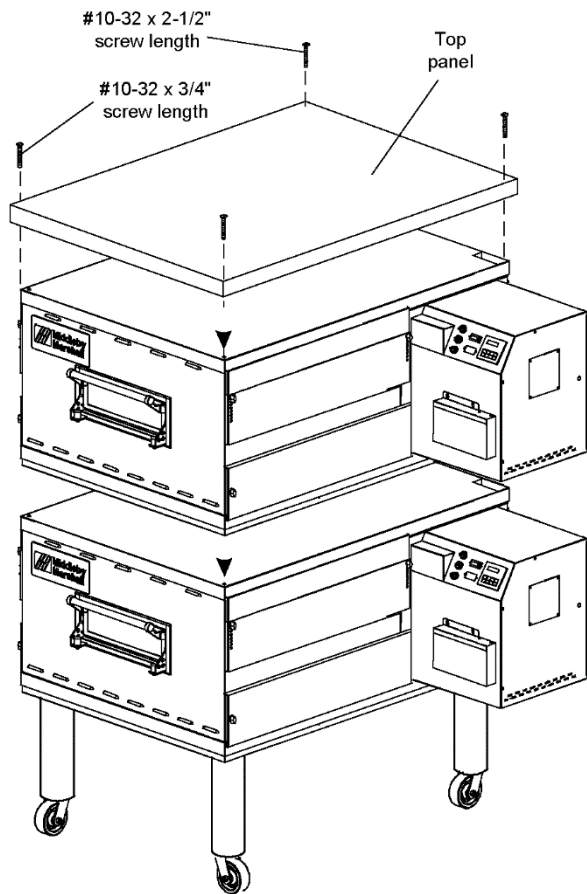

Figure 12. Top Panel Installation
3. Install the top panel using the screws included in the base pad kit, as shown in Figure 12.